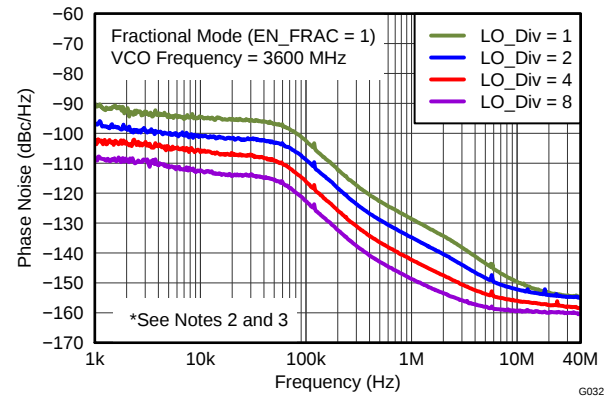

Figure 34. Closed-Loop Phase Noise vs Divide Ratio ( $V_{CC\_TK} = 5\text{ V}$ , Fractional Mode)
| Closed-Loop Phase Noise                           | vs Divide Ratio (2)(3)          | Figure 34                                                                   |